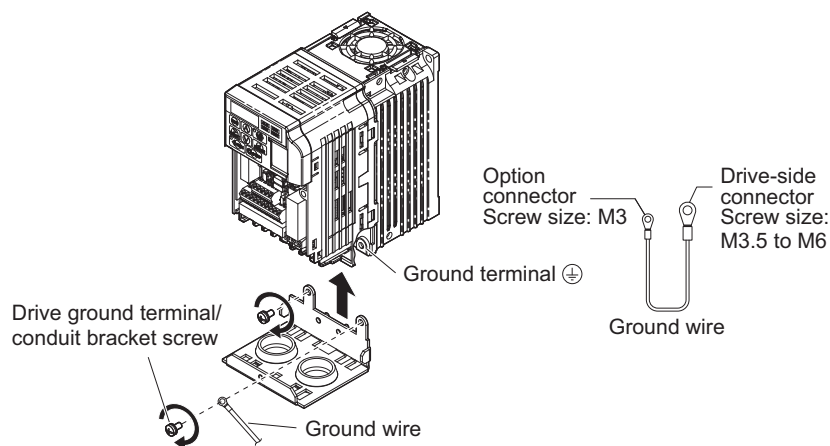

Figure 12 Reattach the UL Type 1 Conduit Bracket and Connect the Ground Wire for models CIMR-V□BA0001F to BA0003F, 2A0001F to 2A0006F
8. On UL Type 1 enclosure models (CIMR-V□BA0001F to BA0003F, 2A0001F to 2A0006F), the screw for the drive ground terminal also acts as one of the screws that attaches the conduit bracket to the drive. Reattach the conduit bracket according to Figure 12 and connect the drive-side of the ground wire to the drive ground terminal.